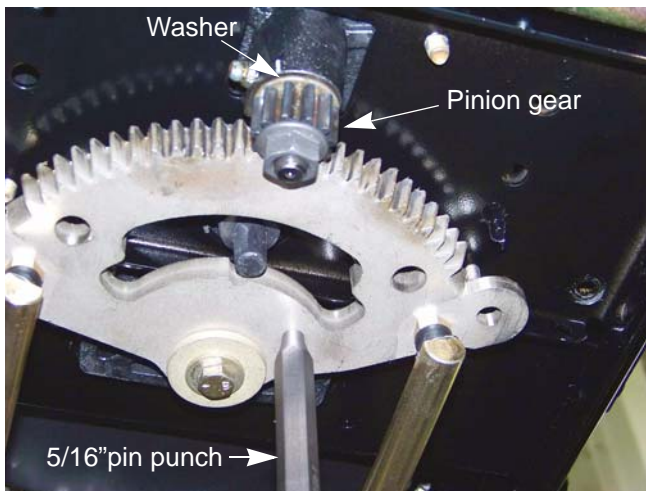

Figure 6B.24
19. Lock the steering by inserting a 5/16" pin punch into the alignment hole of the steering sector gear and the steering housing. See Figure 6B.24.